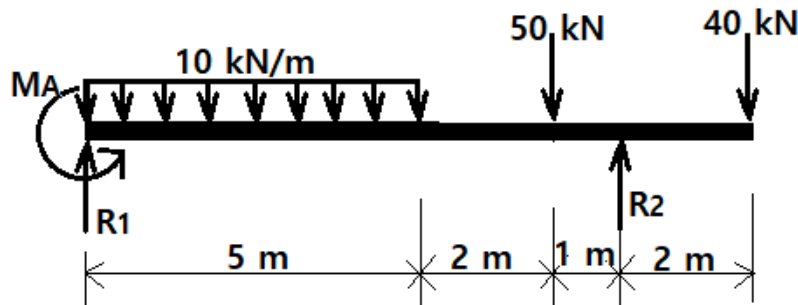

Figure Q4
- (b) Using Singularity Functions, express the shear forces and bending moment in the beam shown in **Figure Q4**, and draw the shear force and bending moment diagrams for the beam and indicate principal values. Loads and dimensions are indicated in the diagram. (7 Marks)